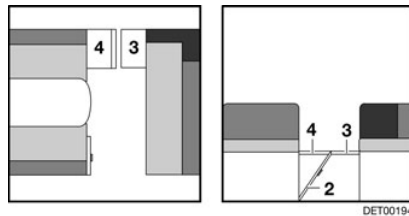

Fig. 34 During conversion
- Fold up bench seat extension (Fig. 34,4) and wedge together with the flap (Fig. 34,2).
- Pull out the slatted frame (Fig. 34,3).